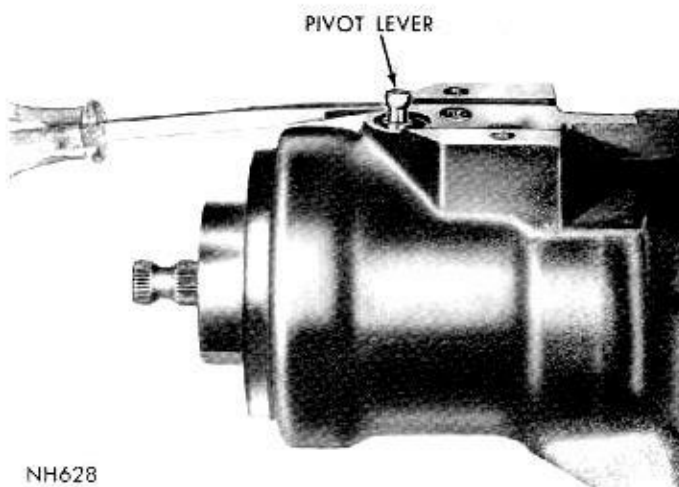

Fig. 11—Removing Pivot Lever
- (3) Remove pivot lever and spring. Pry under spherical head with a screw driver (Fig. 11).